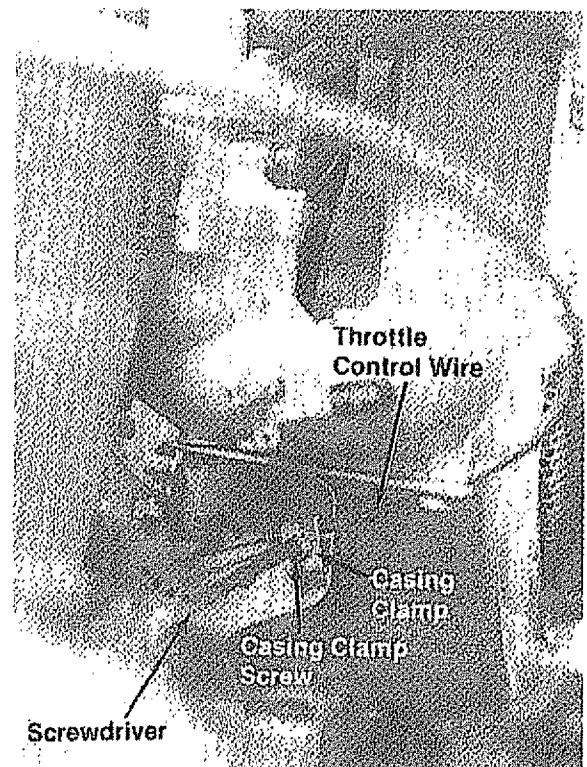

FIGURE 41.
- Tighten the casing clamp screw. See figure 41.